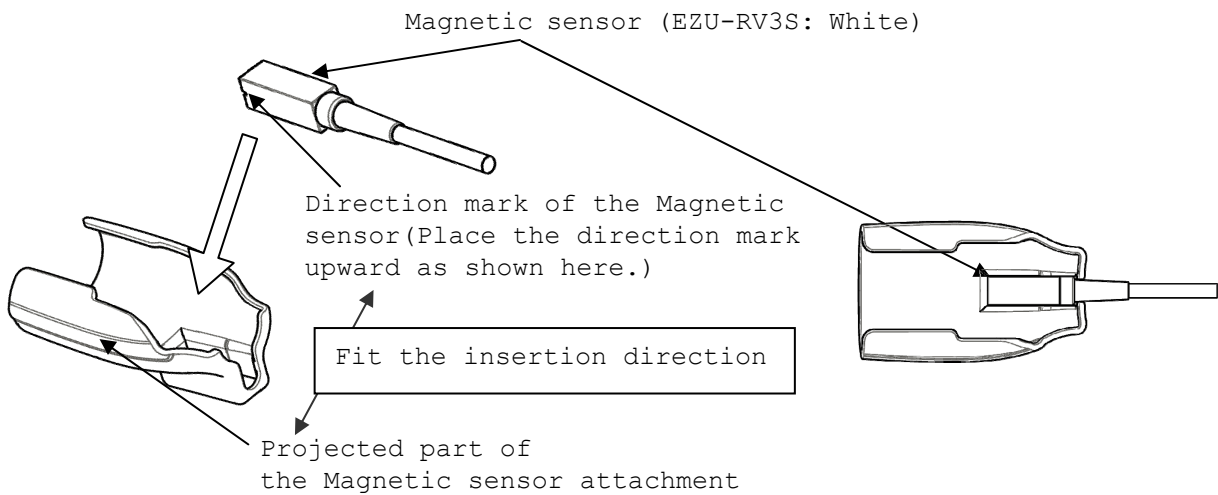

Fig.9 How to attach the Magnetic sensor
- 1) Attach the magnetic sensor into the probe with the correct direction as shown in Fig.9.